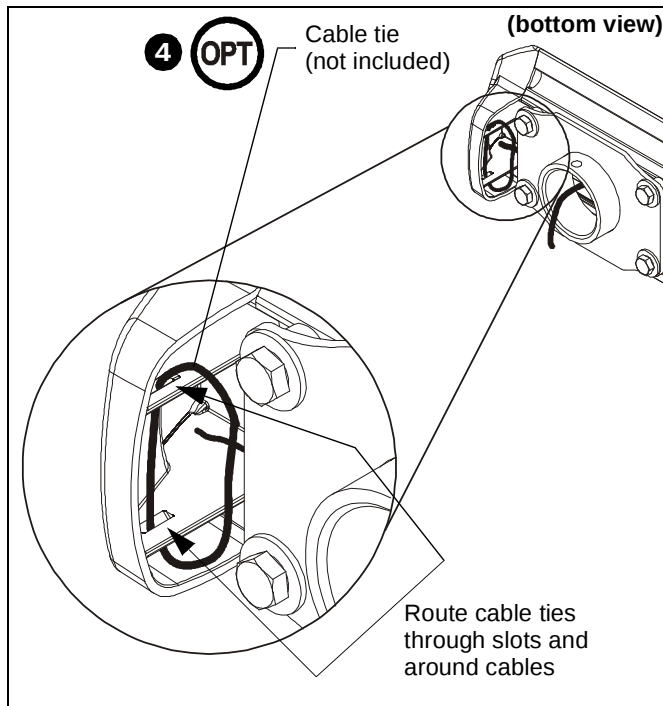

Figure 19
4. **(Optional)** Cables may be tied to inside of WMA1S front cover using cable ties (not included). Route cables near front cover and wrap cable tie through slots on front cover and around cables. (See Figure 19)